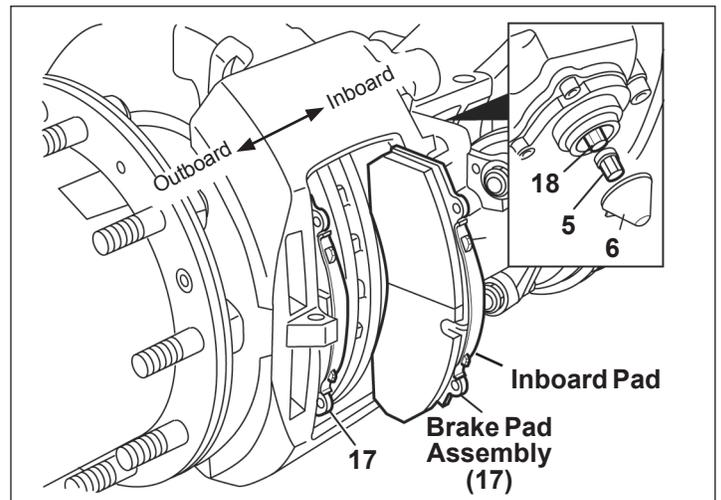

Figure 5 - Brake Pad Removal
To remove the outboard brake pad (17), slide the caliper (1) fully to the outboard position first. Similarly, to remove the inboard pad, first move the caliper fully to the inboard position, and then remove the pad. *See Figure 5.*